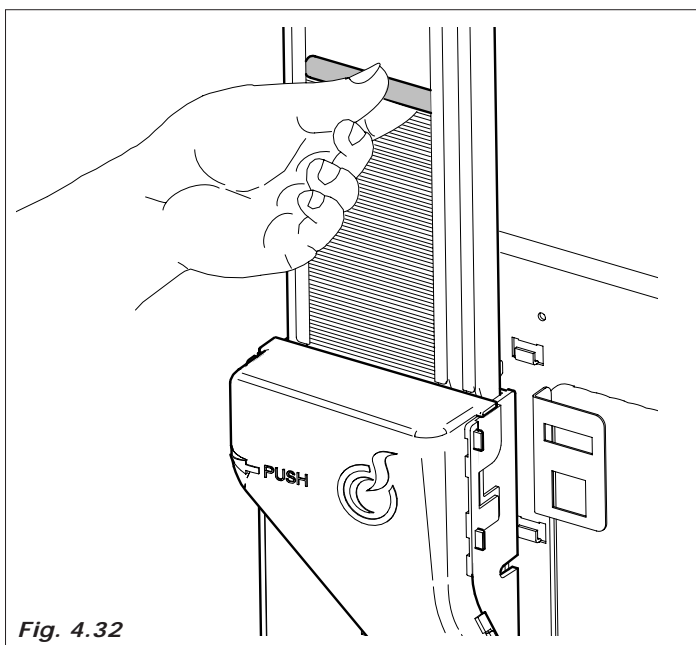

Fig. 4.32
- Check that the spoon are cut burr-free, that they are not bent and that they are all placed horizontally (Fig.4.32).